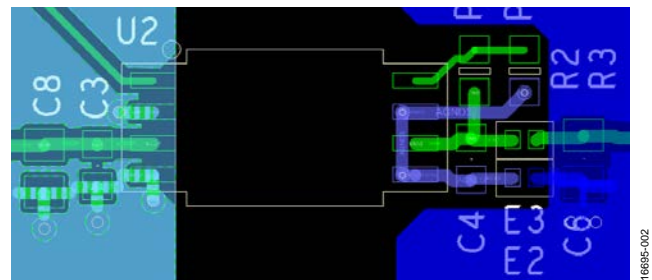
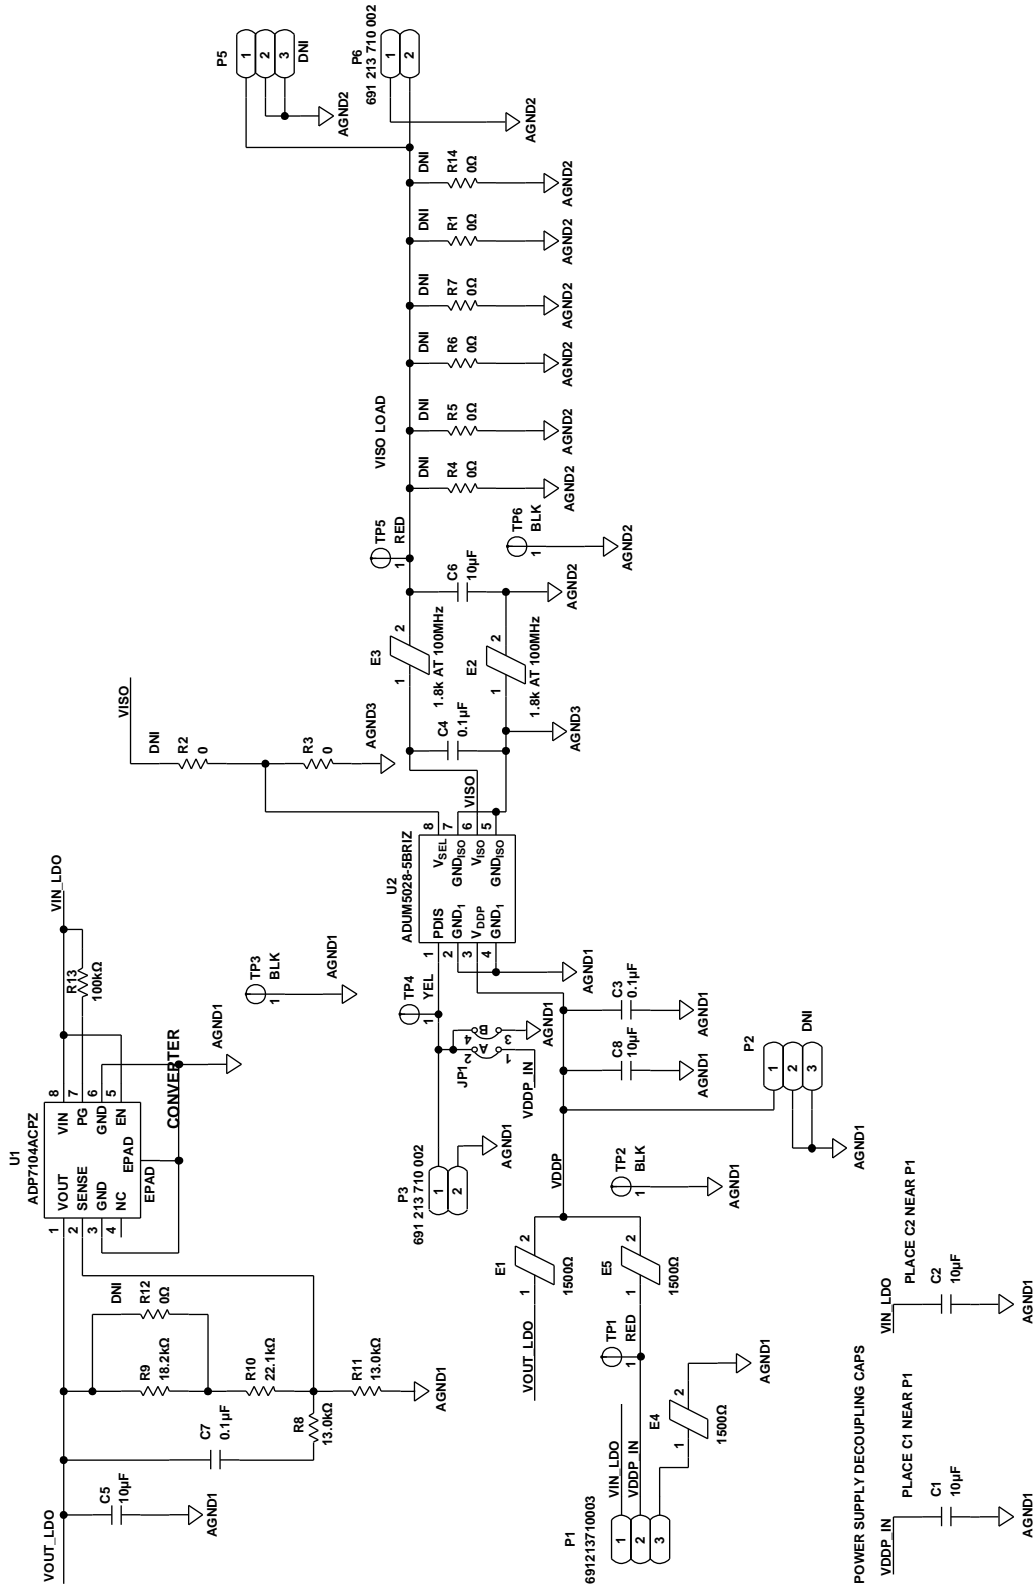
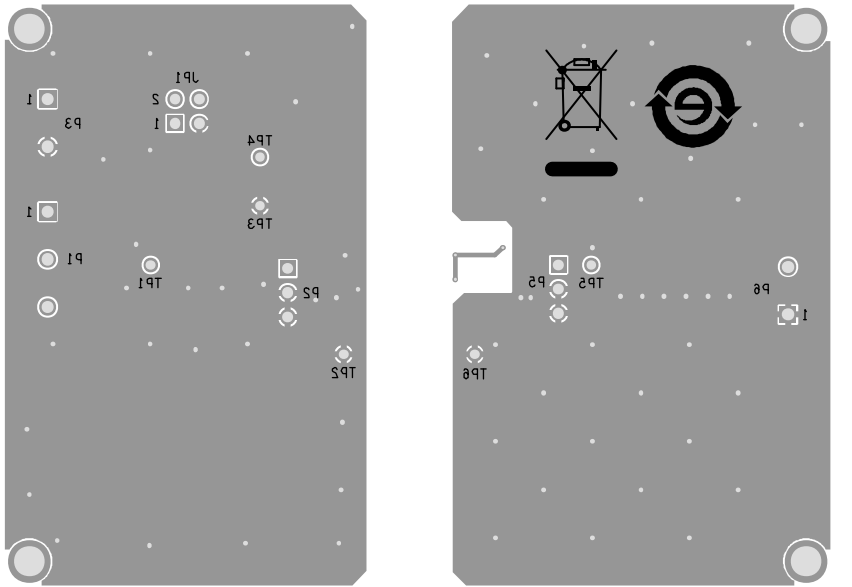

Figure 2. Layout Guidelines for EVAL-ADuM5028EBZ
Figure 5. EVAL-ADuM5028EBZ Evaluation Board Schematic
Figure 7. EVAL-ADuM5028EBZ Evaluation Board Bottom Layer and Silkscreen
To reduce the level of electromagnetic radiation, increase the impedance to high frequency currents between the V_{ISO} pin and the GND_{ISO} pin and the PCB trace connections. Using this method of emissions suppression controls the radiating signal at its source by placing surface-mount ferrite beads in series with the V_{ISO} pin and GND_{ISO} pin (see Figure 5). The impedance of the ferrite bead is approximately 1.8 k Ω between the 100 MHz and 1 GHz frequency range. This impedance value reduces the emissions at the 180 MHz primary switching frequency and the 360 MHz secondary side rectifying frequency and harmonics. See Table 2 for examples of appropriate surface-mount ferrite beads.
To pass EN55022 Class B on a 2-layer PCB, the following layout guidelines for ADuM5028 are recommended (see Figure 2 and Figure 5):
- Do not connect the V_{ISO} load to a PCB power plane (see Figure 5). Connect the V_{ISO} load using a PCB trace.
- Ensure V_{ISO} (Pin 6) is connected first through the E2 ferrite before connecting it to the V_{ISO} load (see Figure 2).
- Ensure there is a keep out area in the PCB layout around the E2 and E3 ferrites, as shown in Figure 2 (no PCB planes under or alongside E2 and E3).
The EVAL-ADuM5028EBZ evaluation board is tested and certified to pass the EN55022 Class B standard. EN55022 certification documents for the EVAL-ADuM5028EBZ evaluation board are available upon request from Analog Devices. Table 3 provides a summary of the results. All EN55022 radiated emissions tests were performed with the PCB schematic and layout as shown in Figure 5 to Figure 7.